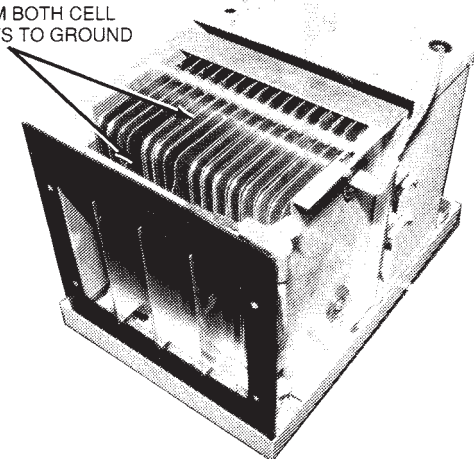

FIGURE 3
- For added safety, manually discharge the unicell in the following manner. Place the blade of a common screwdriver (with insulated handle) across the ionizer wire and ionizer fin. Next, place the screwdriver blade between any two cell plates. This will remove any residual charge that may not have bled off. Disconnect high voltage wires (see Figure 3).